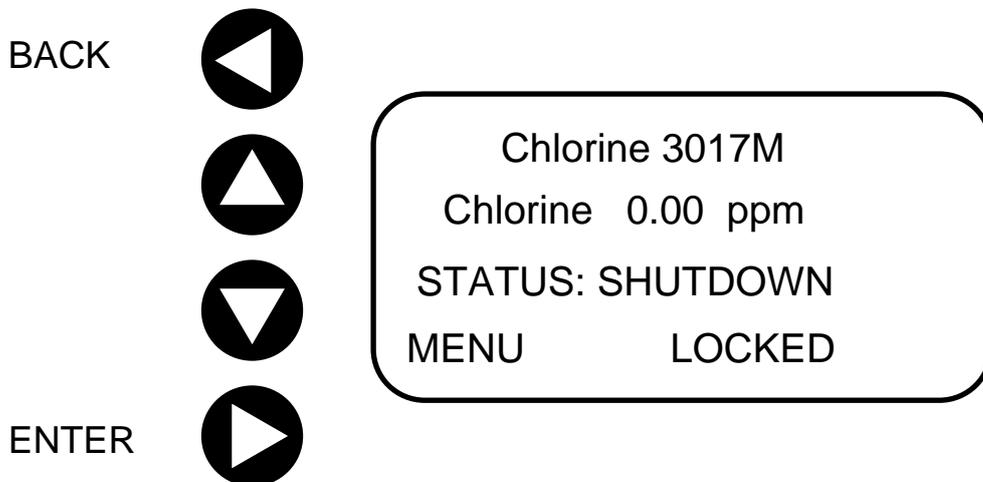
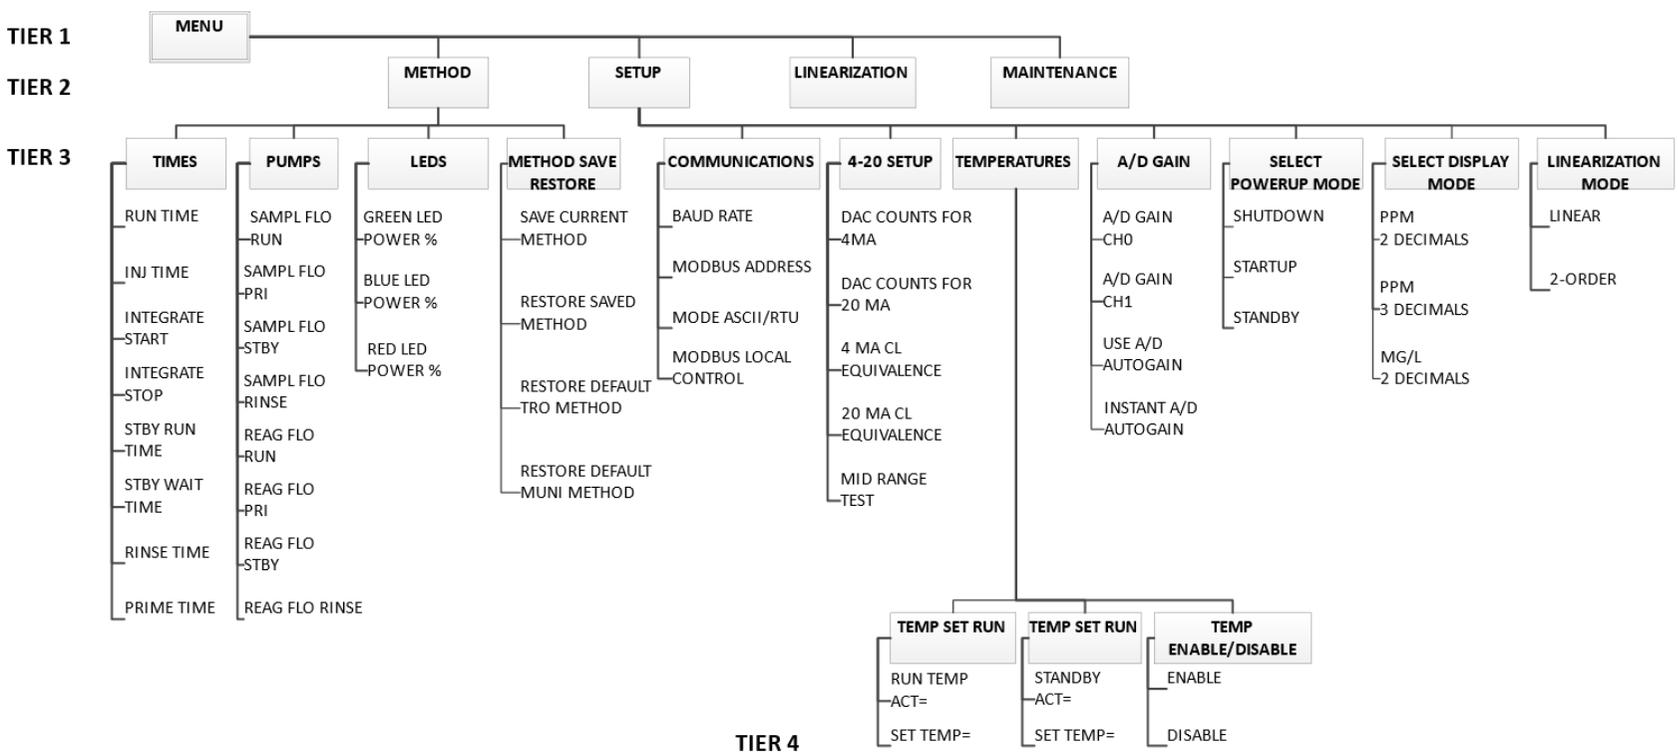

Figure 6.1 Model 3017M HOME Screen
Figure 6.2 Depiction of the tiered structure of the embedded firmware of the 3017M
As noted in Section 5, the analyzer is typically left in the STANDBY mode unless (1) it is actively monitoring chlorine level in the sample stream, or (2) some other function has been purposely chosen from the list of available functions. See Figure 6.1.
The unit has a four-line display and the firmware can be navigated by use of the directional keypad at the left of the display. Figure 6.1 shows the HOME screen and Table 6.1 lists the function of each key and area of the display. This is the desired screen during normal operation. The upper row is used for reporting chlorine levels. The next row indicates the status of the analyzer and the bottom row is divided into two parts. MENU provides access to the next Tier of commands. See Figure 6.2 for a description of each Tier and the commands in each Tier. The right-hand-side of the bottom row indicates if the analyzer settings are LOCKED to unauthorized users.
The touchpad has four buttons that are used to navigate through the various Tiers of firmware commands and other selections. ▲ ▼ (UP/DOWN) buttons move through the possible selections within each Tier. A blinking cursor will appear to indicate which command, or selection, is available when the ► (ENTER) button is pushed. The ◀ (BACK) button is used to step back out of a given Tier and ultimately to the HOME screen. The HOME screen is shown in Figure 6.1.